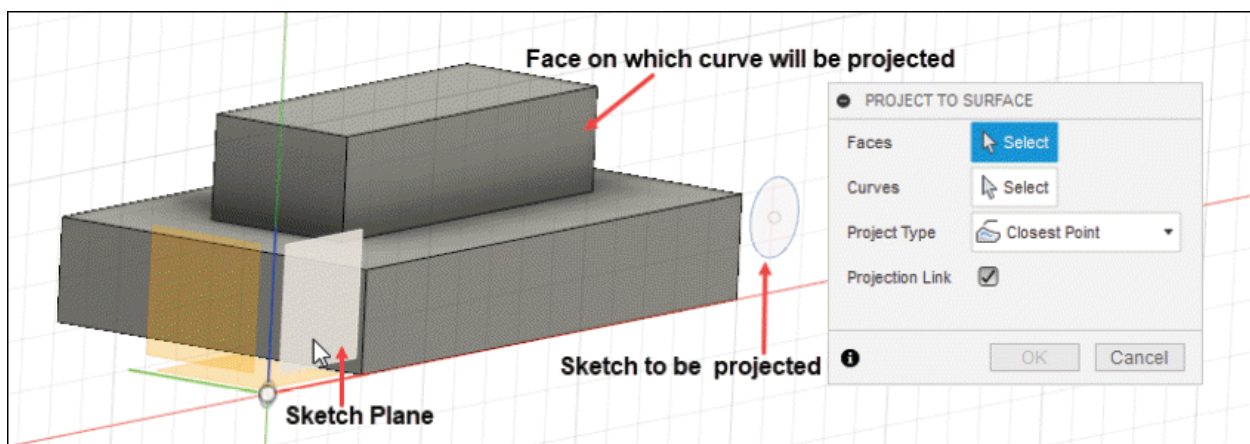

Figure-152. Selection for project to surface tool
- Select the plane which is parallel to face/surface on which sketch is to be projected. The sketching environment will become active. Click on the **Project to Surface** tool, the **PROJECT TO SURFACE** dialog box will be displayed; refer to Figure-152.